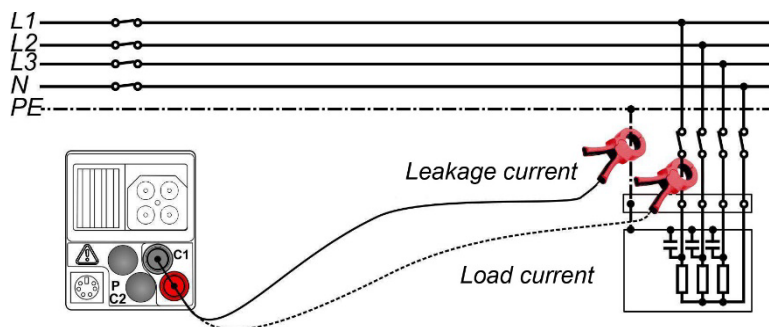

Figure 5.39: Connection of the optional current clamp adapter BENNING CC 1 or BENNING CC 3 - Figure using the IT 130 as an example
- ❑ Clamp the single-wire conductor by means of the current measuring clamp (see figure 5.39).